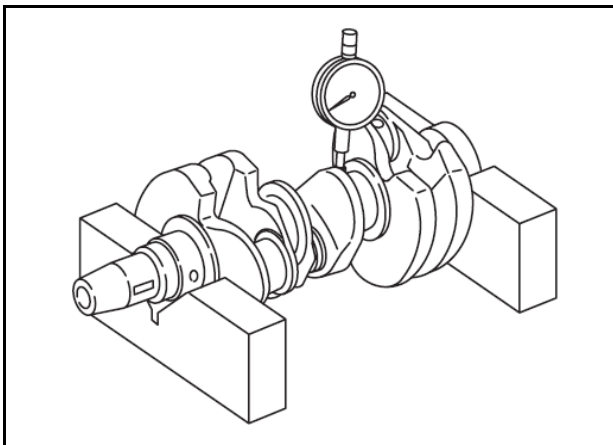

Fig.2-Checking Run-out
2. Check the crankshaft for run-out at #3 main bearing journal, Fig.2.